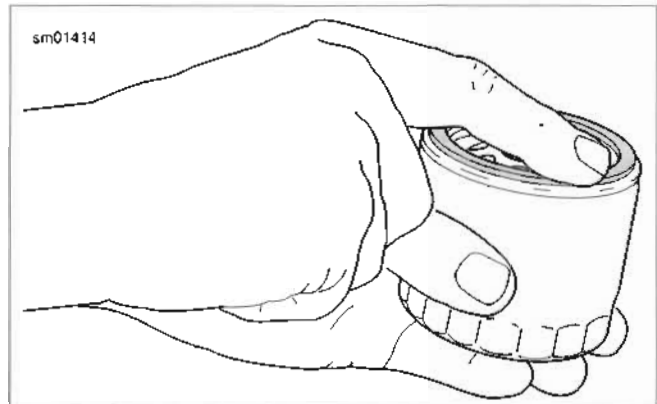

Figure 1-5. Lubricating New Oil Filter Gasket
5. See Figure 1-5. Lubricate the gasket on **new** oil filter with engine oil. Install filter. Hand tighten oil filter 1/2 to 3/4 turn after gasket contacts filter mounting surface. **Do not** use oil filter wrench for oil filter installation.